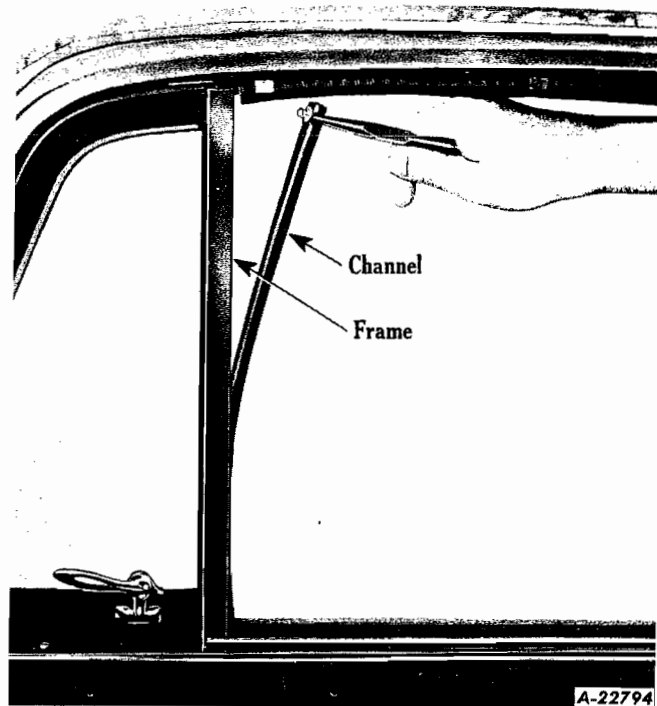

Fig. 12
12. Remove door-glass front channel from frame (Fig. 12).